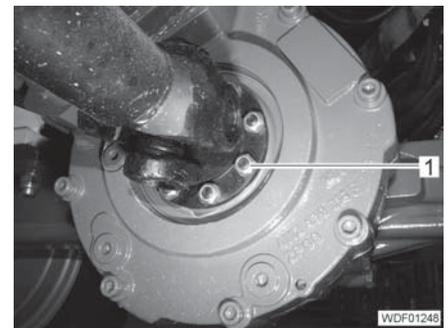

Fig. 233 Connection to the rear axle
- Unscrew the 8 nuts (Fig. 233,1).
- Screw the 8 nuts (Fig. 233,1) onto the threaded bolts and tighten.